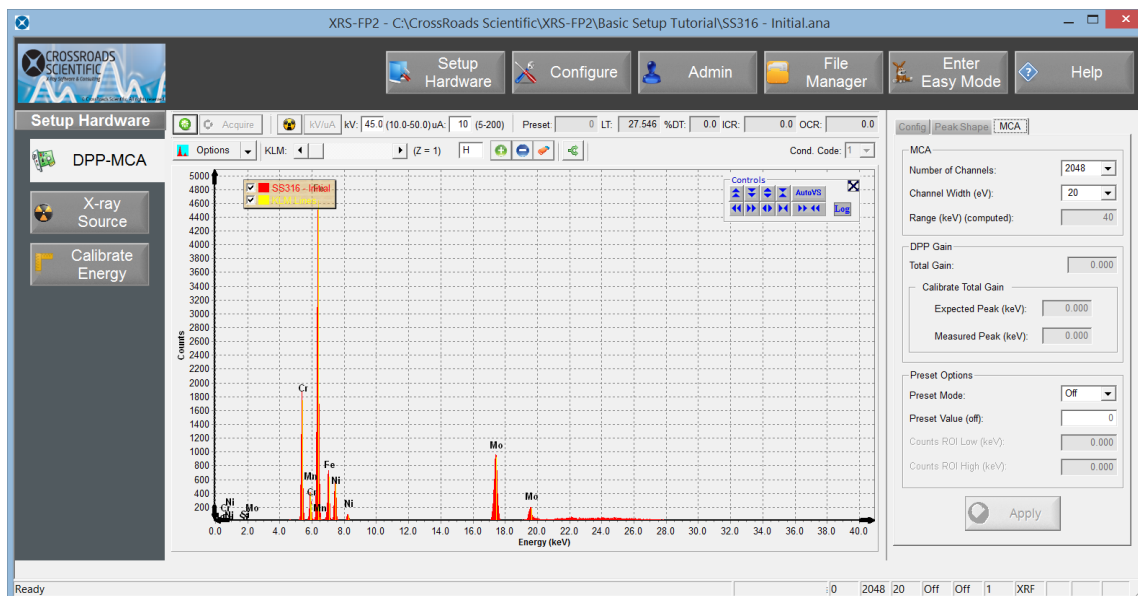

Figure 9. Setup DPP-MCA. Amptek DPP/MCA Acquisition Setup showing the No. Channels, eV/Ch and Range.
7. From the XRS-FP2 ribbon select the **Setup Hardware** button and go to the **DPP-MCA** button. If working offline (without HW) go to the MCA tab on the right hand panel and check or enter the number of channels, with the eV per channel or range (keV). See figure 9 below. ***If working with HW please see the following document for stepwise details on performing an energy calibration in XRS-FP (with Amptek HW): "XRS-FP2 How to Calibrate with Amptek HW.doc".*** Note that the two most important parameters involved in the DPP/MCA setup are the number of channels and range. Figure 9 shows the Amptek DPP/MCA Acquisition Setup parameters.